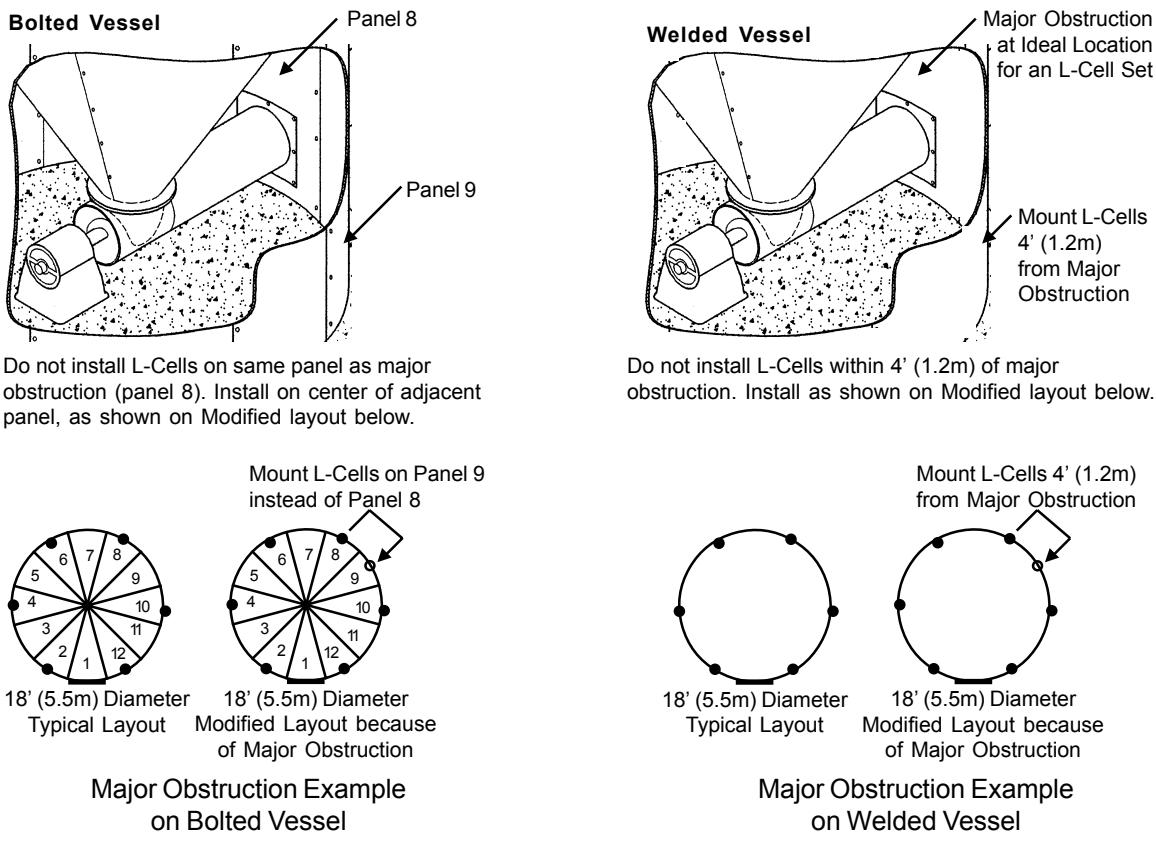

Figure 5-8. Mounting L-Cells in Alternate Locations because of Major Obstructions
- Figure 5-8 shows an example of a **major obstruction**. For bolted vessels, do not place an L-Cell set on a panel with a major obstruction — skip to the next panel. For welded vessels, do not place an L-Cell set within 4' (1.2m) of a major obstruction.